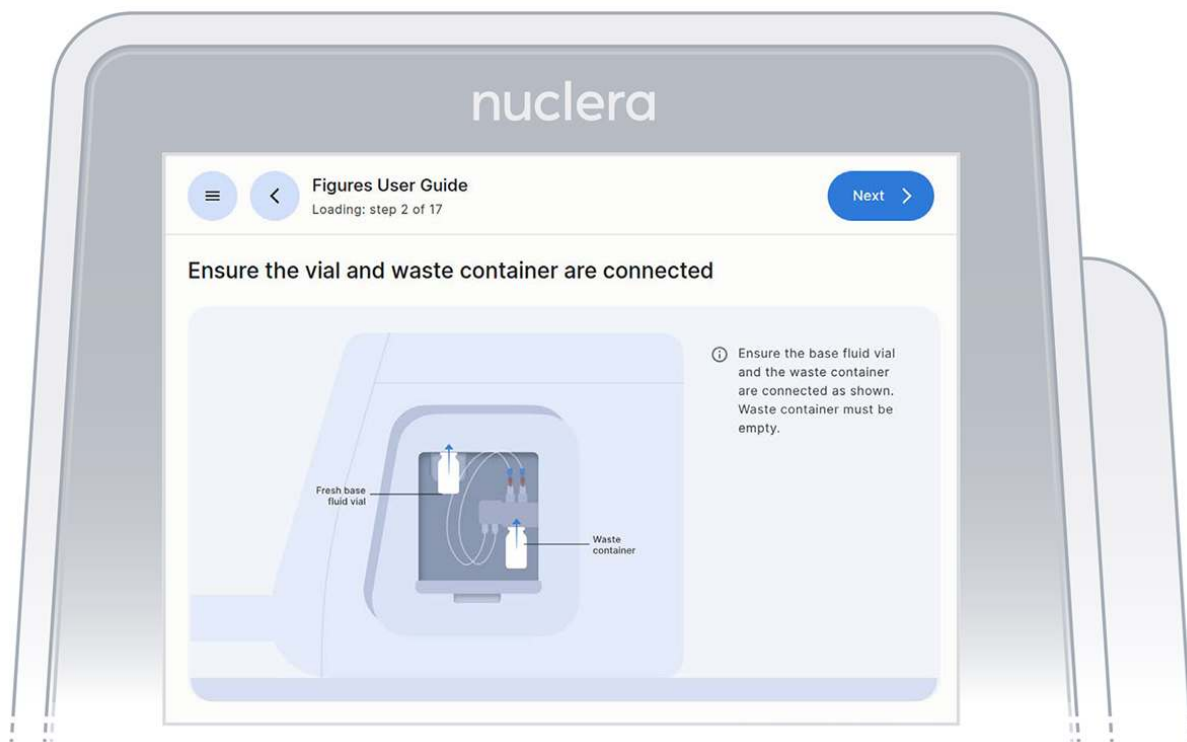

Figure 14: Vial of base fluid and the waste container connected to the pump as shown on the screen
2. Ensure the vial of base fluid and the waste container have been connected to the pump located on the right hand side of the instrument. Press the **[Next]** button (Figures 14).